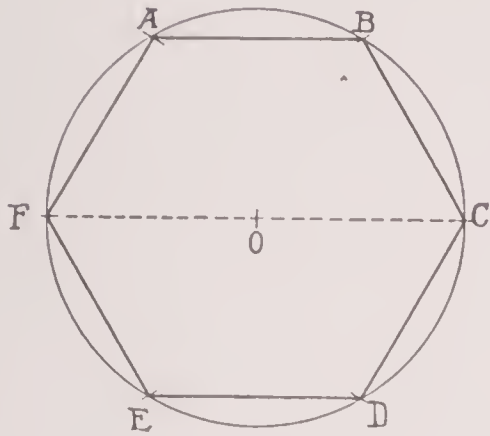

Fig. 20
20. To inscribe a regular hexagon in a given circle (Fig. 20):